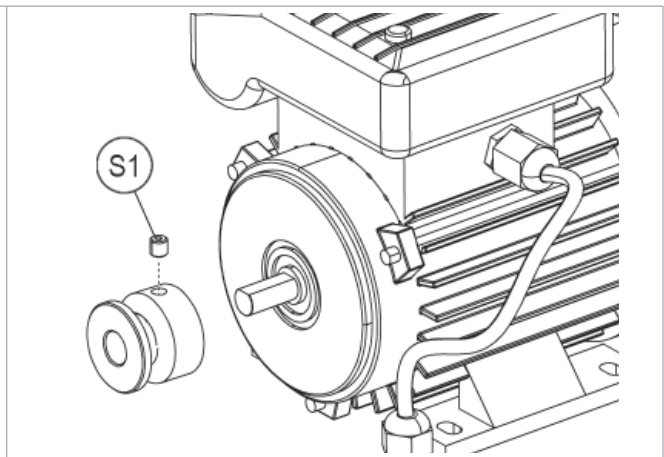

Fig. 56
- 9) Loosen the grub screw (S1) and remove the drive pulley (Fig. 56).